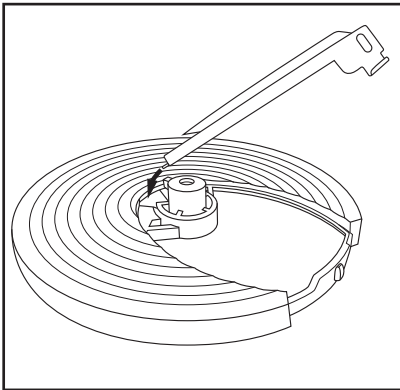
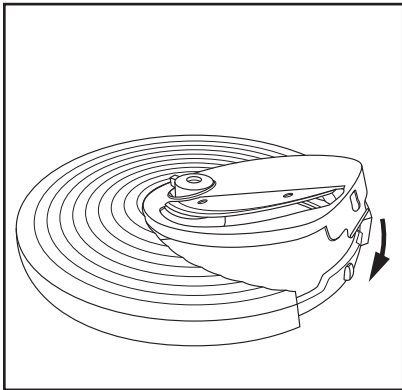

Fig. 1
Fig. 2
- insert the new disk with the narrower side first into the recess in the disk adapter **13** (Fig. 1) and push the disk firmly downwards so that it engages and is firmly seated (Fig. 2).